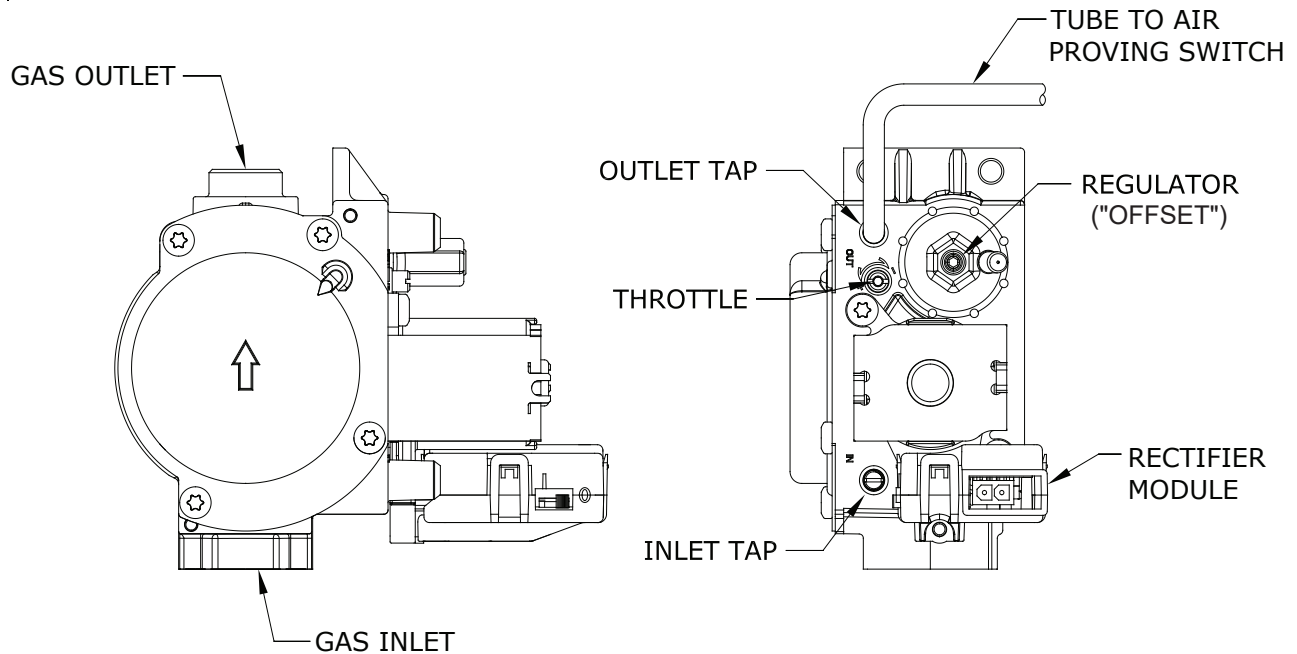

Figure 12.4: Gas Valve Detail
a) With burner at high fire, adjust gas valve throttle (Fig 12.4) as needed to obtain CO₂ (or O₂) setting shown in Table 12.5A.
b) With the burner at low fire, adjust gas valve offset regulator (Fig 12.4) as needed to obtain CO₂ (or O₂) setting shown in Table 12.5A.